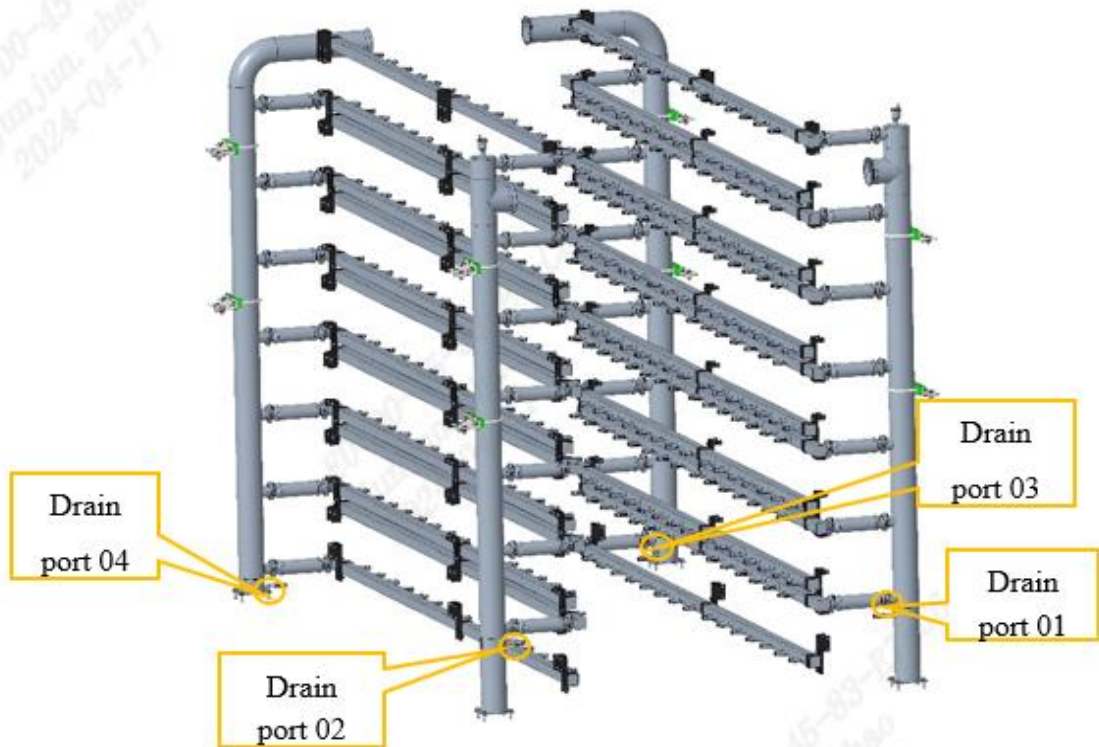

Figure 7-4 Water distributor drain port
- e) Open the filling valve V209 and close the drain valve V201 (see Figure 7-4 and Figure 7-4 Water distributor drain port